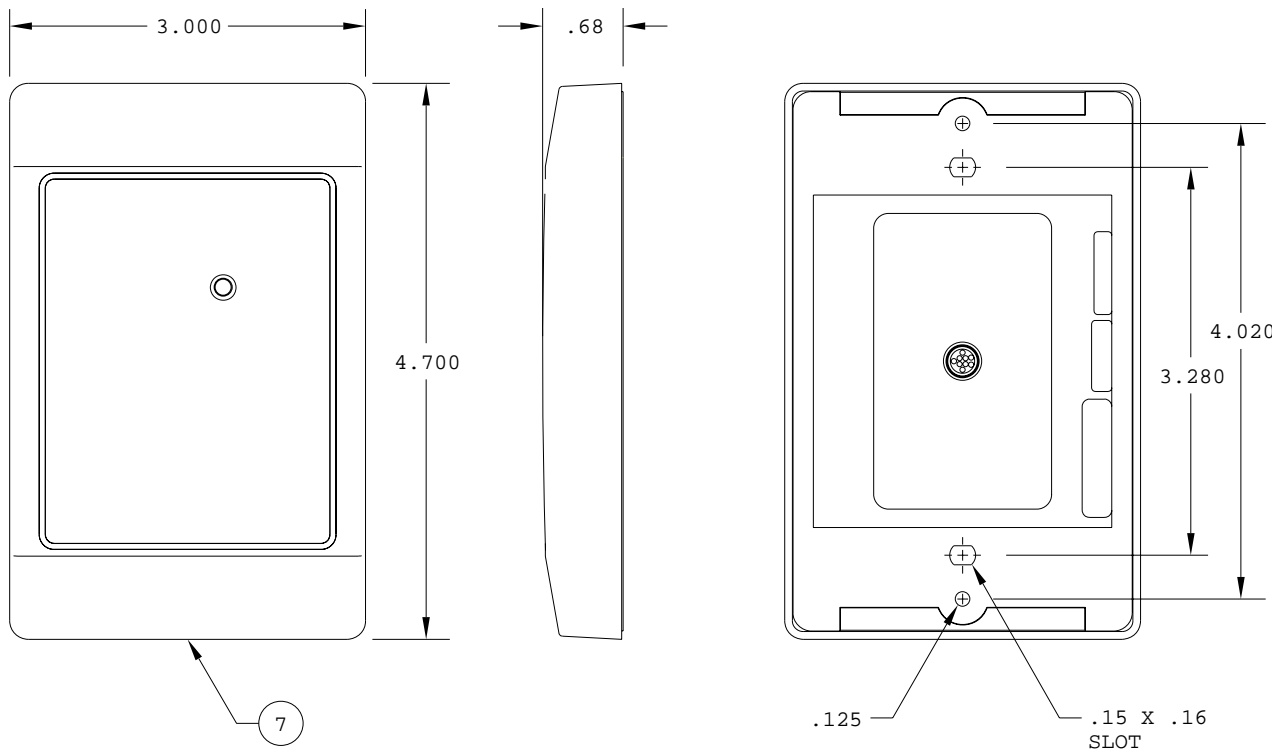

Figure 1 Front, Side and Back Views
- Drill two (2) 3/32-inch (2.5mm) holes approximately 1 inch deep for mounting the reader.
- See Figure 1 for product and mounting dimensions.